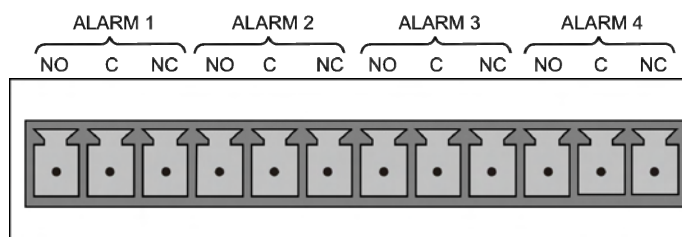

Figure 5-2: Concentration Alarm Relay
The Teledyne API “E” series analyzers have an option for four (4) “dry contact” relays on the rear panel of the instrument. This relay option is different from and in addition to the “Contact Closures” that come standard on all TAPI instruments. The relays have three pins that have connections on the rear panel (refer Figure 5-2). They are a Common (C), a Normally Open (NO), and a Normally Closed (NC) pin.